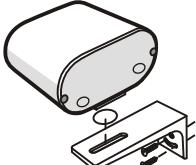

Fig. 3
- 6.) Install the infrared sensor/transmitter mounting bracket(s) (refer to Fig. 3 & 4 ).
- 8.) Secure the bracket using the bolt provided (refer to Fig. 3 ).